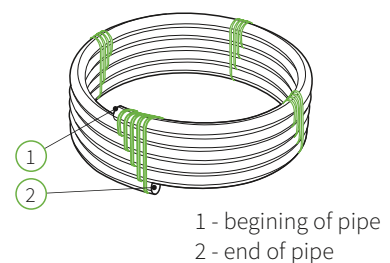

Fig. B9.4
It is essential that the straps are cut in the correct sequence, as otherwise the coil could spontaneously unwind and cause, serious injuries and damage. Please refer to the diagram (Fig. B9.4) which shows where to start the uncoiling (2) by careful and controlled removal of the fixing straps.